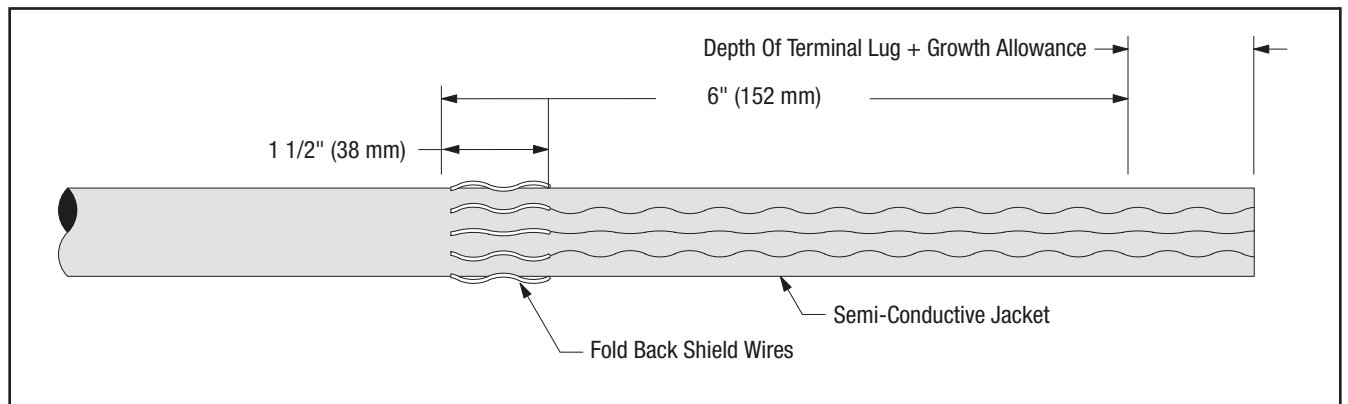

Figure 16
12.4 Remove constant force spring. Bend shield wires back upon cable jacket 1 1/2\" (38 mm). Cut excess shield wire and discard (Figure 16).